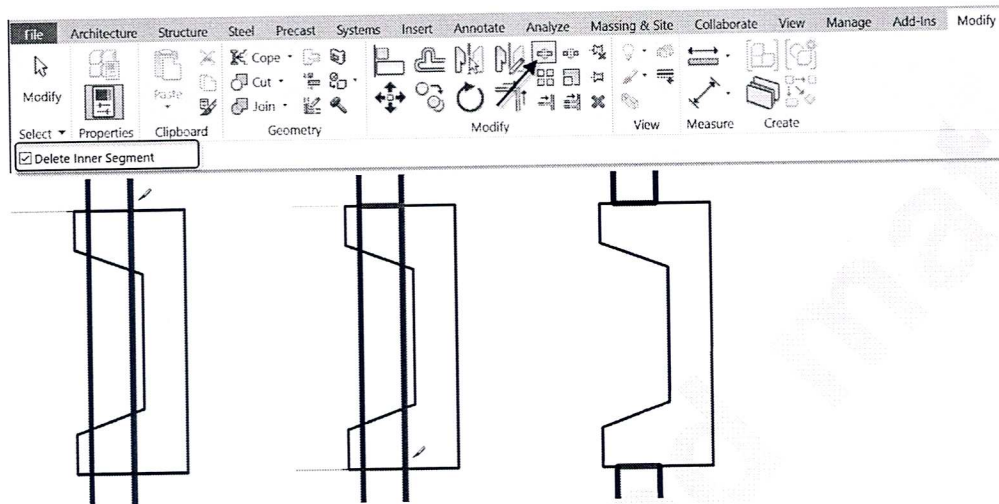

FIGURE 4.65 Split the exterior wall
2. Split the exterior vertical wall on both sides of the fireplace (see Figure 4.65).
4. On the Modify tab, on the Geometry panel, click the Join tool (see the top of Figure 4.65).